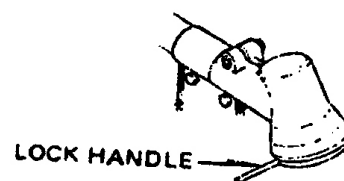

Fig. 8
- 2) When installing or removing a blade, lock cutter holder with lock handle to tighten or to untighten as shown in Fig. 8